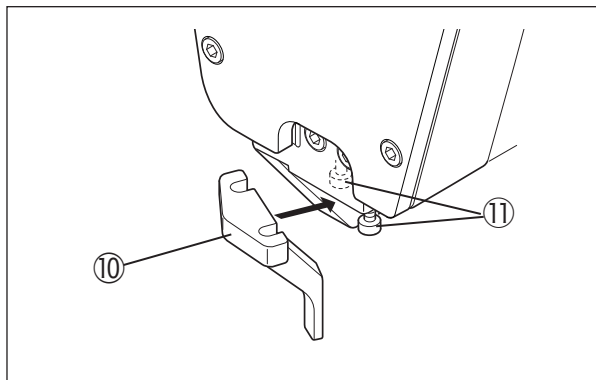

Fig. 6-49
- (3) Bring the presser foot guide (left) ⑩ into close contact with the presser foot ⑫ , and tighten the screw ⑪ . (Fig. 6-49)
- (4) Move the presser foot ⑫ up and down using the presser foot lifter lever ③ , and check that it moves smoothly. (Sufficiently loosen the presser spring regulator.)
- (5) Keep lowering the needle, and check that the needle arrives at the center of the needle hole of the presser foot ⑫ .